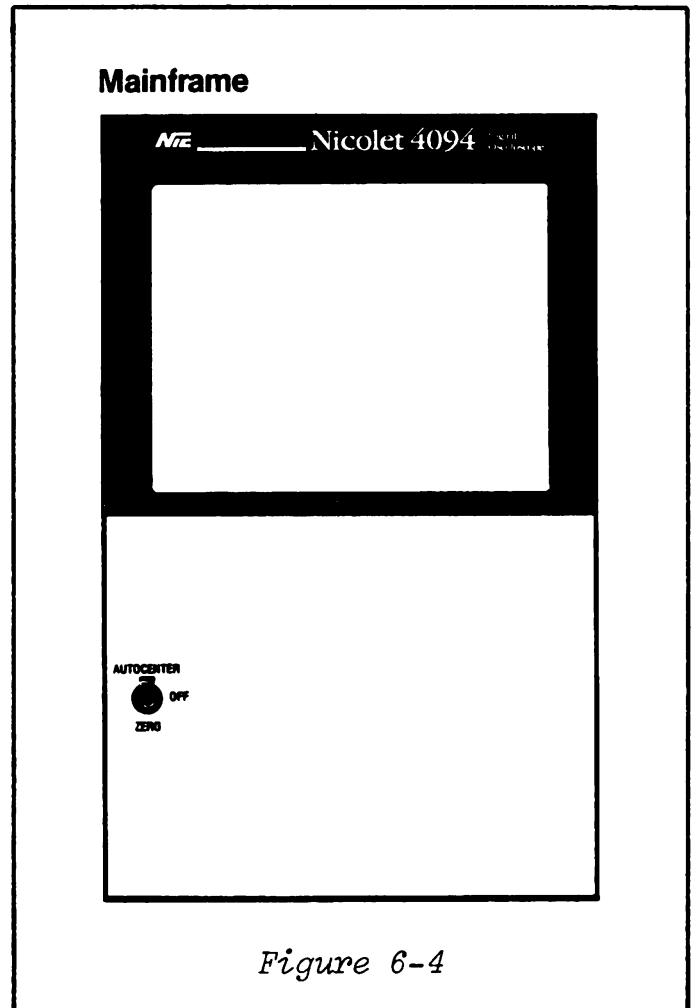

Figure 6-4
- #4. Place the AUTOCENTER switch to the Autocenter position, Figure 6-4.